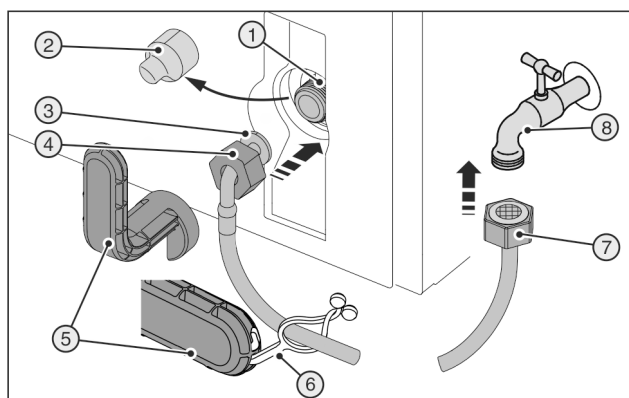
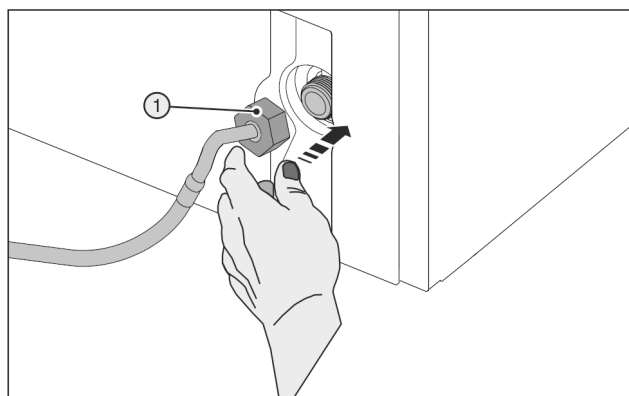

Fig. 45
Fig. 46
Broken auxiliary tool Fig. 45 (5).
- ▶ Only use an auxiliary tool Fig. 45 (5) at room temperature.
- ▶ Remove the cover Fig. 45 (2).
- ▶ Easy to fit: Place the straight end of the hose Fig. 45 (7) to the left on the floor.
- ▶ Slide the nut Fig. 45 (4) over the angled end of the hose Fig. 45 (3) up to the end and secure.
- ▶ Position the nut *Fig. 46 (1)* carefully and screw it directly onto the thread with two fingers until it is seated securely.
- ▶ Tighten the nut *Fig. 46 (1)* clockwise with the auxiliary tool *Fig. 45 (5)* until maximum torque is reached and the auxiliary tool *Fig. 45 (5)* overtightens.
- ▶ Screw the nut *Fig. 45 (7)* onto the stopcock *Fig. 45 (8)*.
- ▶ Tighten the nut *Fig. 45 (7)* clockwise with the auxiliary tool *Fig. 45 (5)* until maximum torque is reached and the auxiliary tool *Fig. 45 (5)* overtightens.
- ▶ Turn the water supply stopcock *Fig. 45 (8)* on and check the whole water system for leaks.
- ▶ Hook the clip *Fig. 45 (6)* into the auxiliary tool *Fig. 45 (5)* and fix it to the stainless steel pipe to store it.